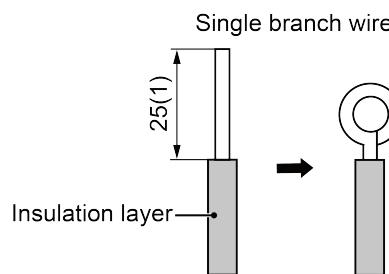

Fig 5.1.1
- (1) Connection of Single Branch Line (shown in Fig 5.1.1).